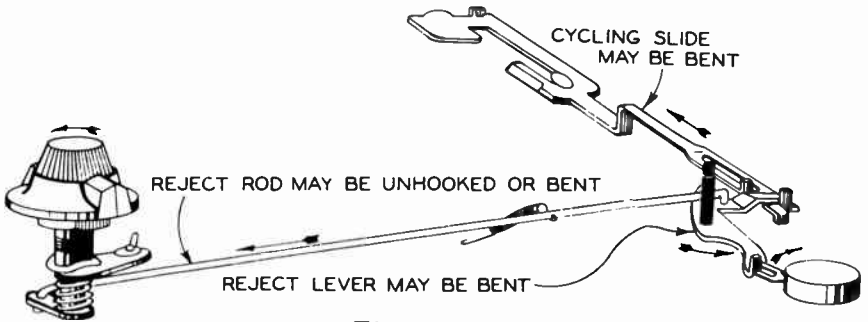

Figure V22.
12. **Reject Knob Will Not Make Changer Reject:** See figure V22.